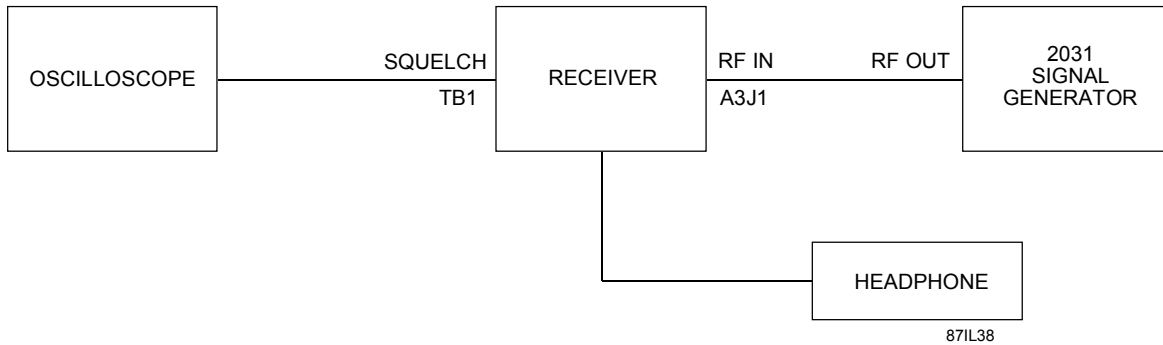

Figure 7-7. Squelch/Mute Performance Test Equipment Connection
1. Connect the WJ-8711A Receiver and test equipment as illustrated in *Figure 7-7*.